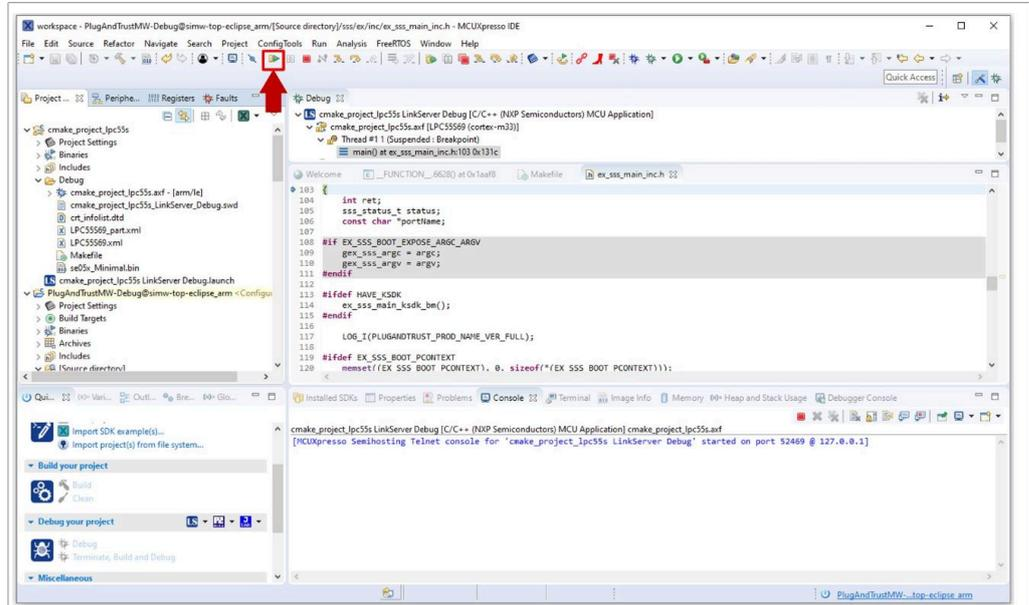

Figure 46. Resume se05x_minimal project example
- When it executes, it will automatically stop in a breakpoint. Click on **Resume** to allow the software to continue its execution as shown in Figure 46.